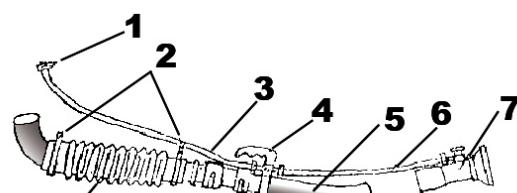

Fig. 4
- 3- Connect spraying pipe to the machine as shown Fig.4